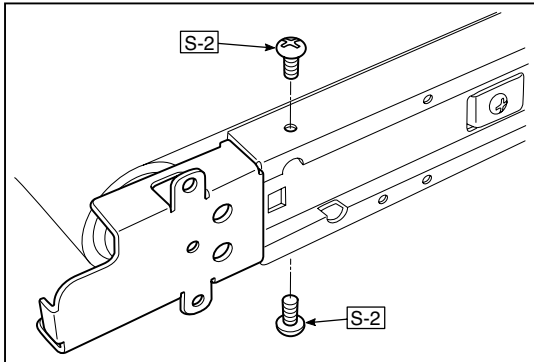

Fig.25
- 1.Remove the “S-2” screws shown in the figure 25.